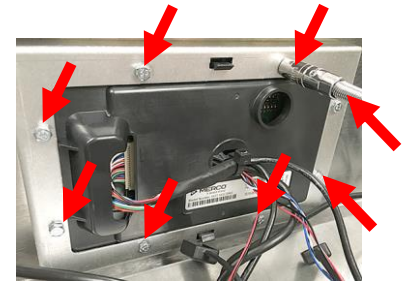

Figure 9
10. Replace the four (4) (CAN, IO and Power) cables with the included (4) **NEW** (CAN, IO and Power) cables.
11. Using a Phillips screwdriver (or 7mm nut driver for some units), remove the eight (8) screws/bolts attaching the retaining frame to the rear of the controller (see Figure 9).
13. Note the type of the controller removed. If the rear of the controller removed matches the rear of the controller in Figure 9, it is the old style of controller prior to 05/2026. If the rear of the controller matches the rear of the controller in Figure 12, it is the new style of controller after 04/2026.